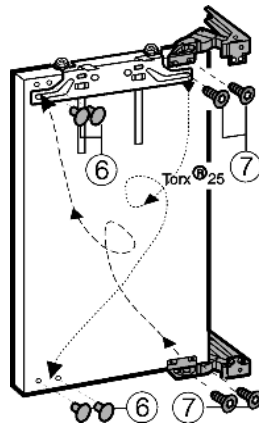

Fig. 5
- ▶ Unscrew *Fig. 5 (7)* the hinges from the door, transfer them diagonally and screw them firmly into place **(with 4 Nm)**.
- ▶ Close the vacated fastening holes with the accompanying stoppers *Fig. 5 (6)*.